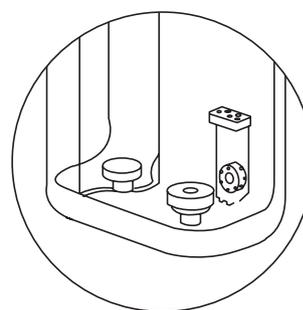

Figure 2
- 3) After cleaning, insert the floating ball back into the groove, then put on the silicone cap and filter mesh tightly (Figure 2).